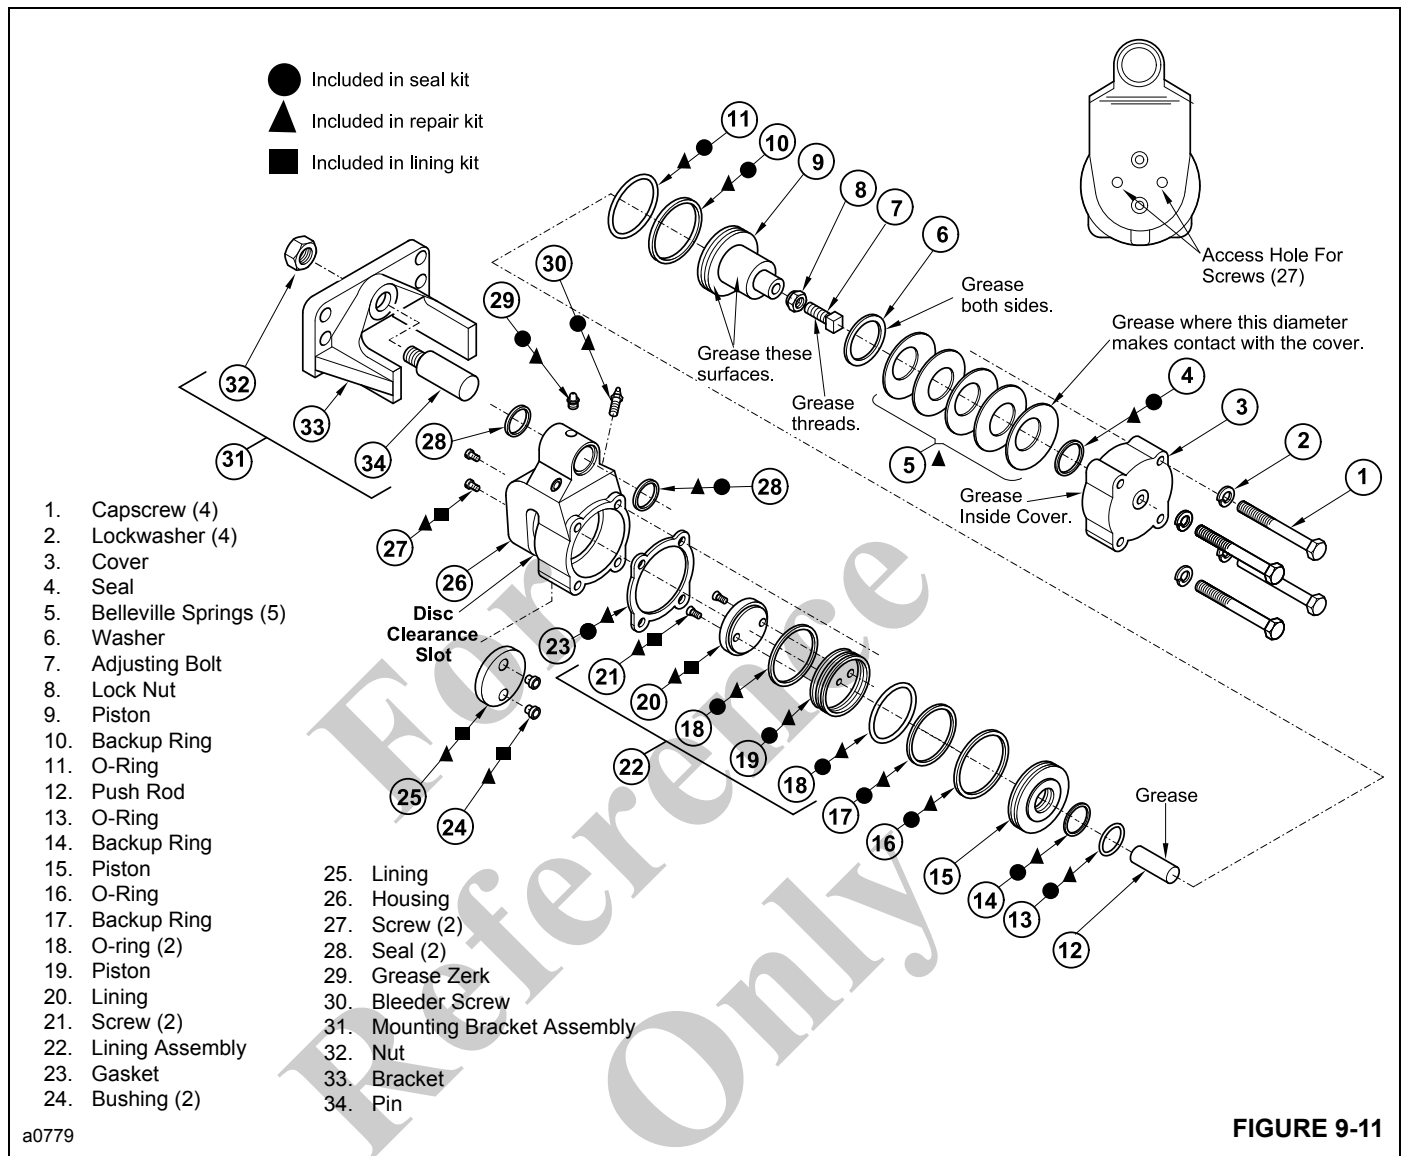

FIGURE 9-11
The lining kit is indicated in Figure 9-11 with a  symbol.
4. Loosen lock nut **8** Figure 9-11 and back off adjusting bolt **7**.
The parking brake has a repair kit available. It includes all the parts necessary to rebuild the brake. These parts are indicated in Figure 9-11 with a ▲ symbol.
4. Loosen lock nut 8 Figure 9-11 and back off adjusting bolt 7.
11. Remove capscrews **1** Figure 9-11, lockwashers **2**, cover **3** and gasket **23**. Using a thin blade screw driver, remove seal **4** from cover **3**.
NOTE: Coat the surfaces indicated Figure 9-11 with a Lithium Base, E.P. No. 2 bearing grease or equivalent.
19. Install new lining **25** Figure 9-11 in housing **26** using new bushings **24** and pan head screws **27**. Tighten the screws to 2.5 - 3.3 Nm (22-28 lb-in).
The parking brake has a seal kit available. It includes all the parts necessary to replace all the seals in the brake. These parts are indicated in Figure 9-11 with a ● symbol.
10. Remove capscrews **1** Figure 9-11, lockwashers **2**, cover **3** and gasket **23**. Using a thin blade, remove seal **4** from cover **3**.
NOTE: Coat the surfaces Figure 9-11 with a Lithium Base, E.P. No. 2 bearing grease or equivalent.